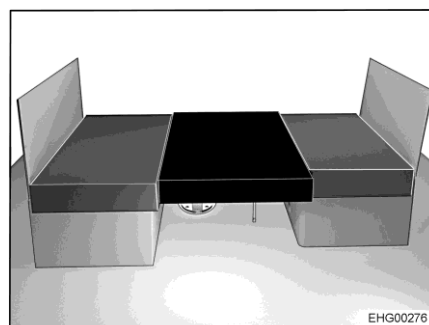

Fig. 55 After conversion
- Place the additional cushion onto the table top (Fig. 55).